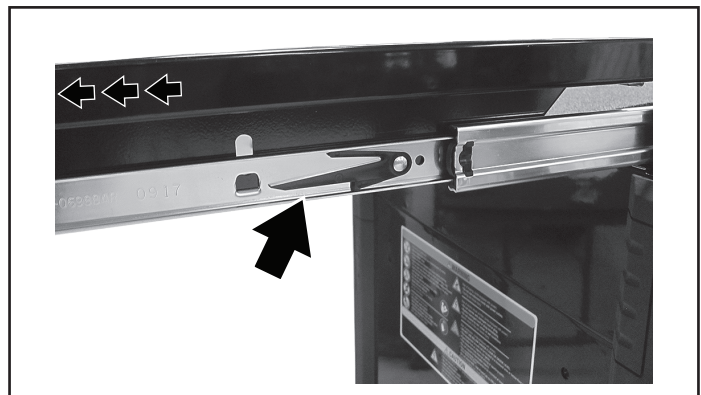

Figure 1
4. Release the slide locks (Figure 1) and extend each cover to allow clearance for the removal of the keyboard and mouse trays.